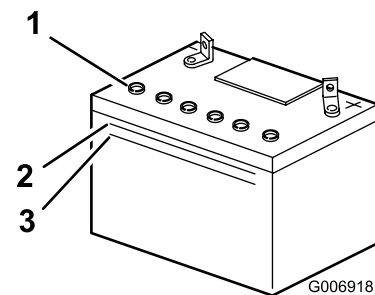

Figure 28
2. Look at the side of the battery. The electrolyte should be up to the Upper line (Figure 28).
Note: Do not allow the electrolyte to fall below the Lower line (Figure 28).
3. Remove the vent caps from the battery (Figure 28).
4. Slowly pour distilled water into each battery cell until the electrolyte level is up to the Upper line (Figure 28) on the battery case.
5. Wait 5 to 10 minutes after filling the battery cells. Add distilled water, if necessary, until the electrolyte level is up to the Upper line (Figure 28) on the battery case.